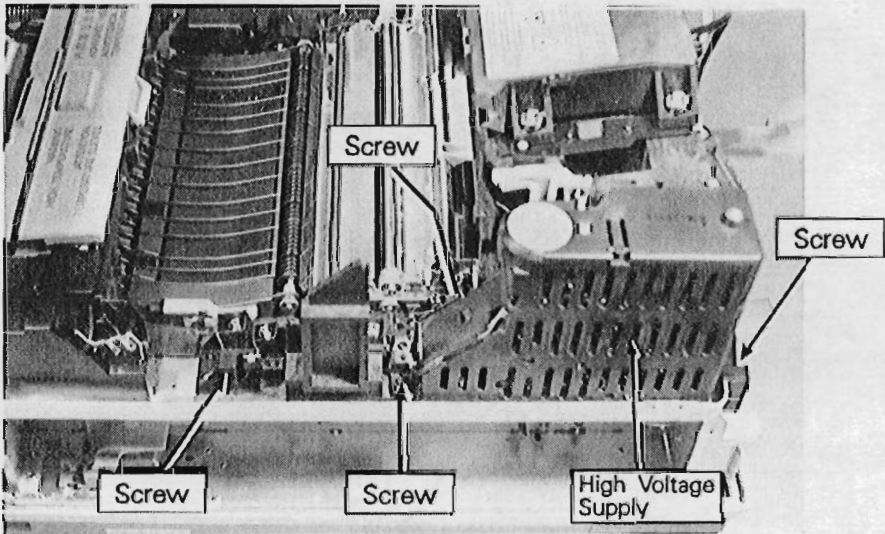

Figure 6-31. High-Voltage Power Supply Assembly
2. Remove the (2) screws that secure the High-Voltage Power Supply and the (2) screws that secure the High-Voltage Power Supply Connector, and remove the assembly from the printer (see Figure 6-31).